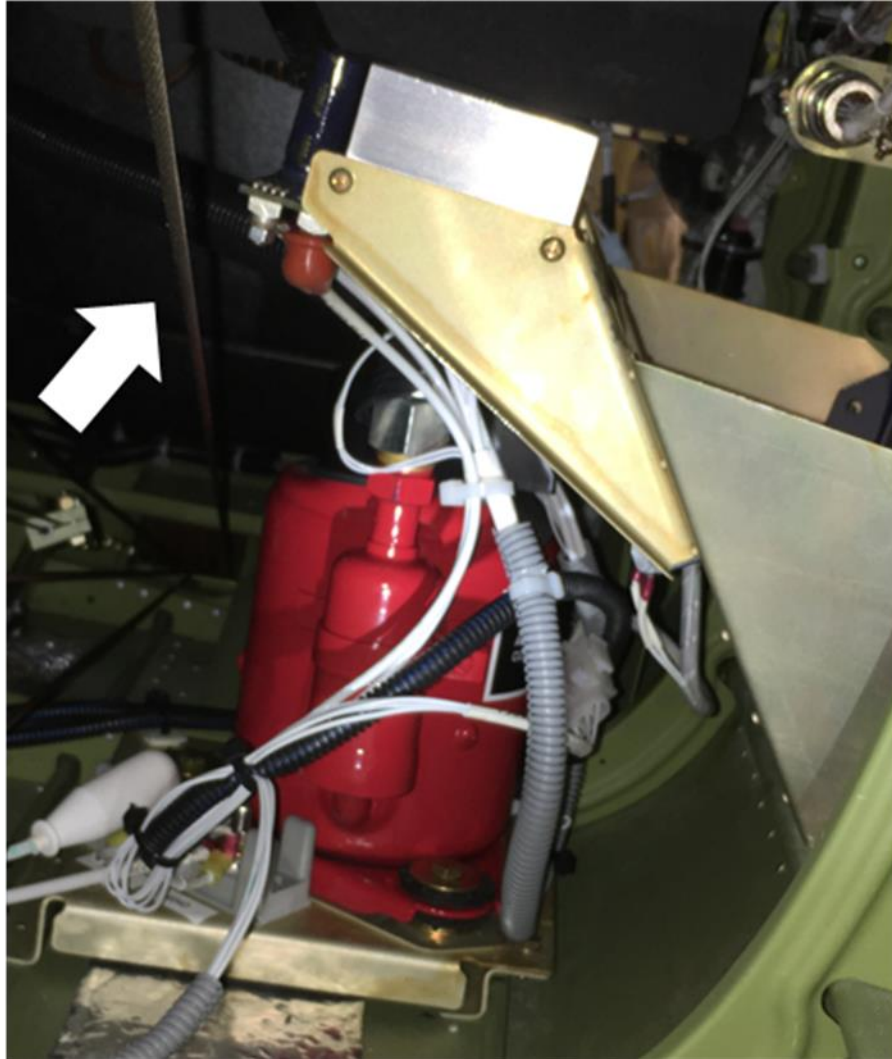

Figure 2
2. Inspect rudder cable routing in tailcone to verify that rudder cable is routed properly, see figure 1 for example of improper routing, see figure 2 for example of proper routing.